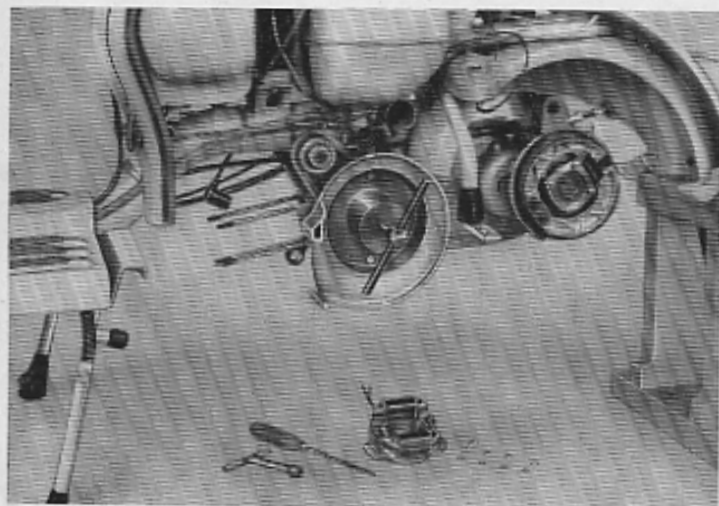

Fig. 18
- 32 To remove the flywheel support flange: withdraw the 3 fixing screws (10mm spanner) remove flange by applying extractor 58903 using two of the three stator plate fixing screws. See Fig. 18.